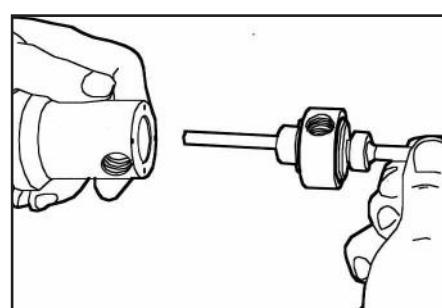

Figure 21
12. PO4-6S/8S: At this point, usually the upper and middle poppet stems will separate. If the lower and middle poppet stems should separate, however, modify the rest of this procedure accordingly. (Fig.21)